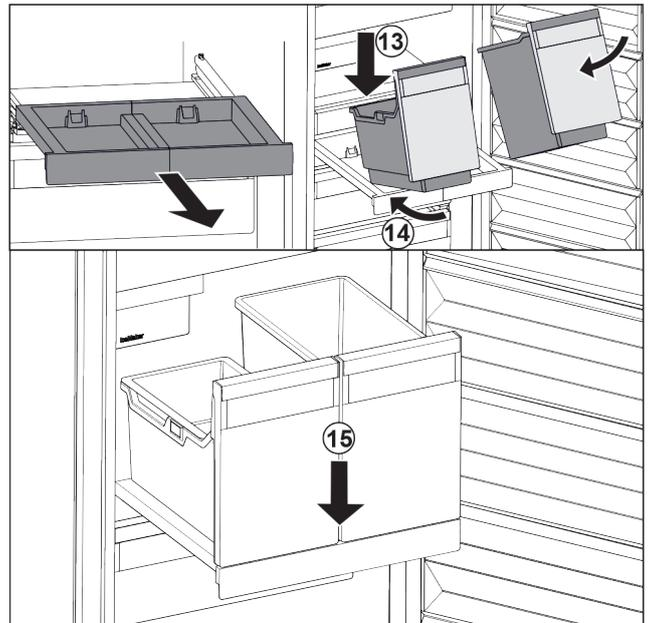

Fig. 34
- ▶ Place the container at an angle on the pull-out board. *Fig. 34 (13)*
- ▶ Slide the container to the back at an angle. *Fig. 34 (14)*
- ▶ Place container in the front. *Fig. 34 (15)*